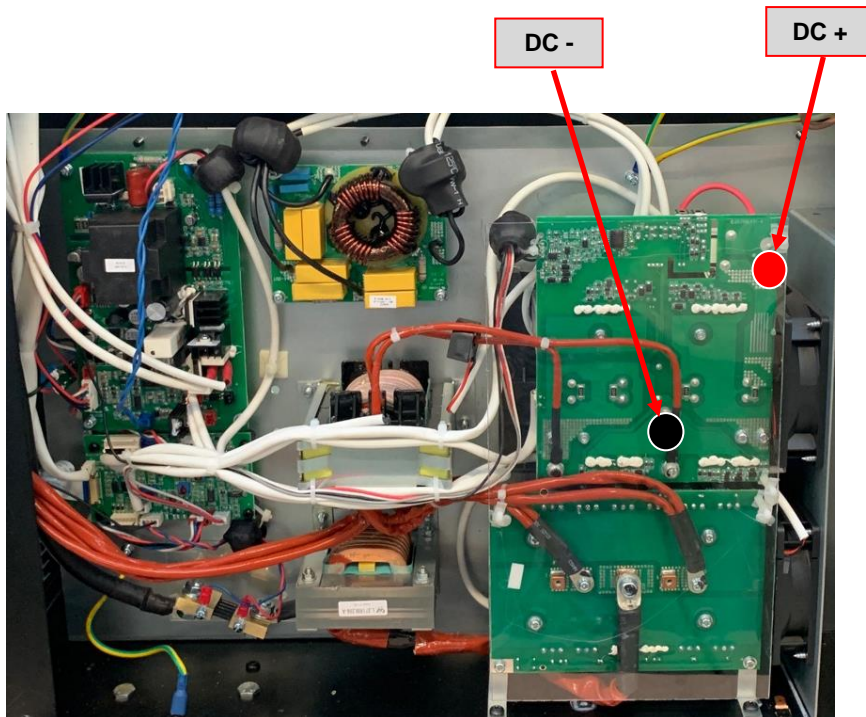

Figure 1
5. Locate the two terminals **DC+** and **DC -** on the Switch Board on the right side of the machine (**See Figure 1**).